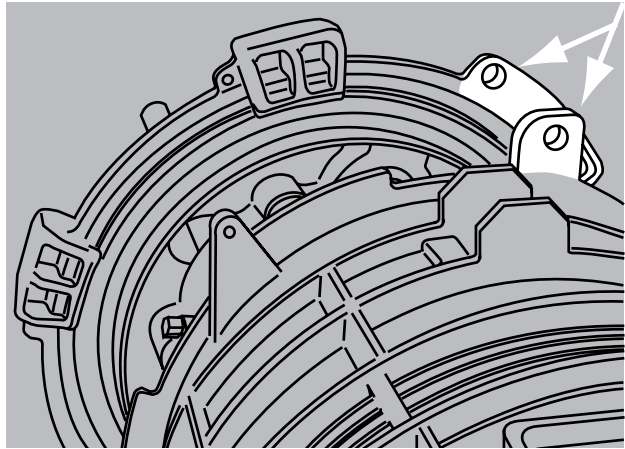

Figure 25
25. Carefully slide the FibreGuard™ Dome over the PLP management system, ensuring that the larger security locations on the closure and end plate line-up once sealed. (Figure 25)